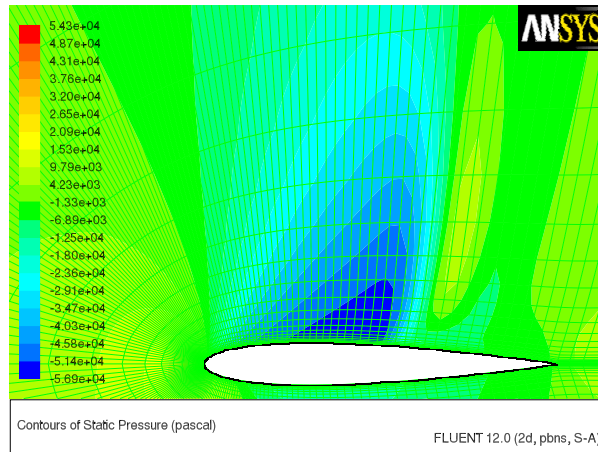

Figure 3.4: Pressure Contours After 50 Iterations
11. Display filled contours of pressure overlaid with the mesh in preparation for defining a surface monitor (Figures 3.4 and 3.5).